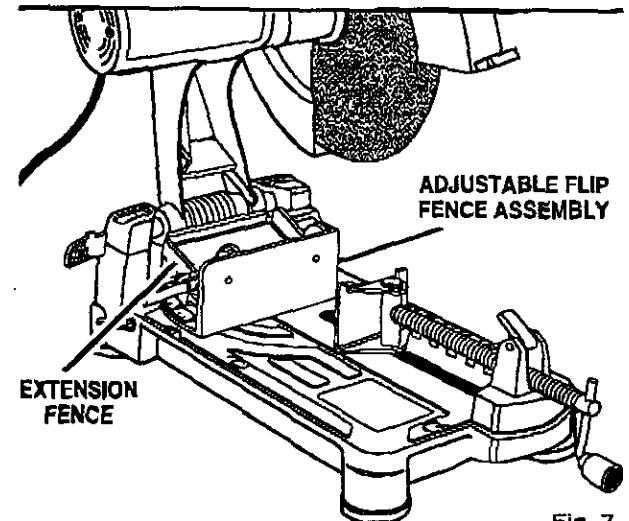

Fig. 7
See Figures 7 and 8.
- To increase the width of cut of your cut-off machine, flip the extension fence up and back as shown in figure 7. This position is good for cutting thin and wide pieces of stock, such as flat or angled stock.